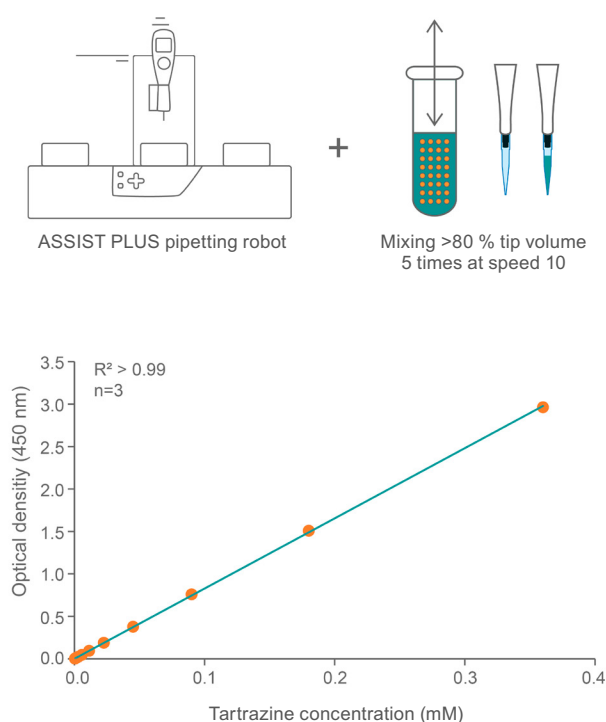

Figure 6: Result of a 2-fold serial dilution of tartrazine using optimized mixing settings on the ASSIST PLUS.
Figure 6 shows a representational, optimized calibration curve of a 2-fold serial dilution. Automating all liquid handling steps and mixing 100 µl of each dilution (>80 % GRIPTIPS volume) 5 times at maximum speed (10) led to reliable results in 3 independent runs. Furthermore, final values of less than 1 % were calculated for the accuracy and precision of the individual dilution steps.